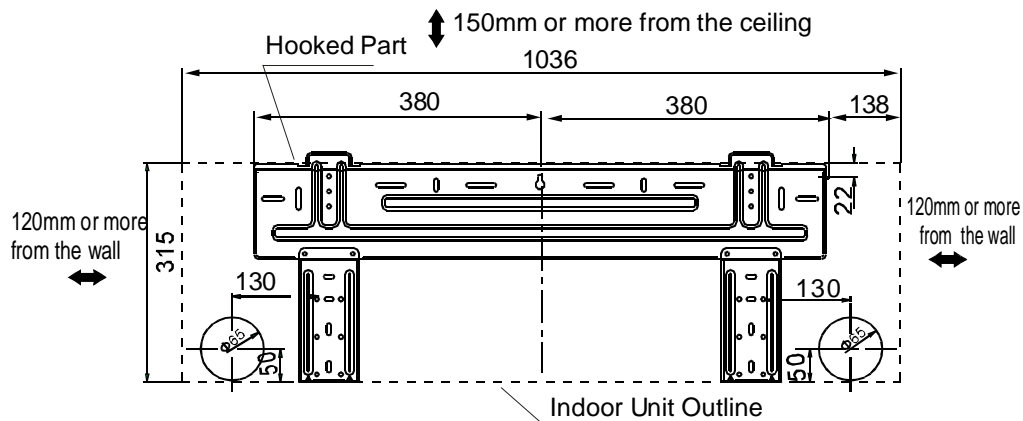

Fig.5
1. Determine hole positions according to the diagram detailed in Fig.5. Drill one (1) hole (65mm) slanting slightly to outdoor side.